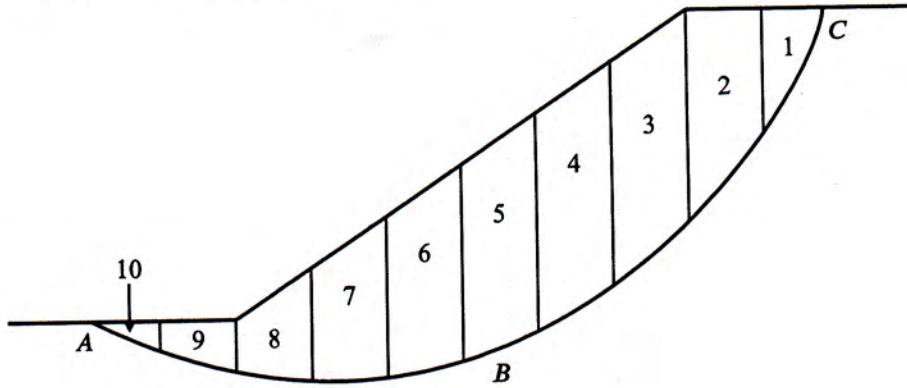

Figure 6: Question 4 (c)
4. (a) What is the importance of minimum spacing of individual piles in a pile group? (2)
- (b) Discuss the different modes of failure of finite slopes with circular failure surface. Also discuss the types of failure circles associated with each mode of failure. (4)
- (c) For the slope shown in Fig. 6, find the factor of safety (F_s) against sliding for the trial slip surface ABC using the Ordinary method of slices. (10 $\frac{2}{3}$)